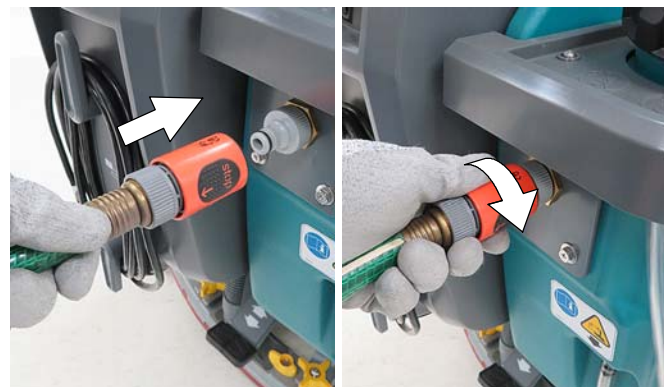

FIG. 25
2. Press the quick-disconnect coupler into the nipple fitting unit it clicks (Figure 25). To prevent hose from being pulled out while tank is being filled, turn collar on coupler clockwise to lock connection.